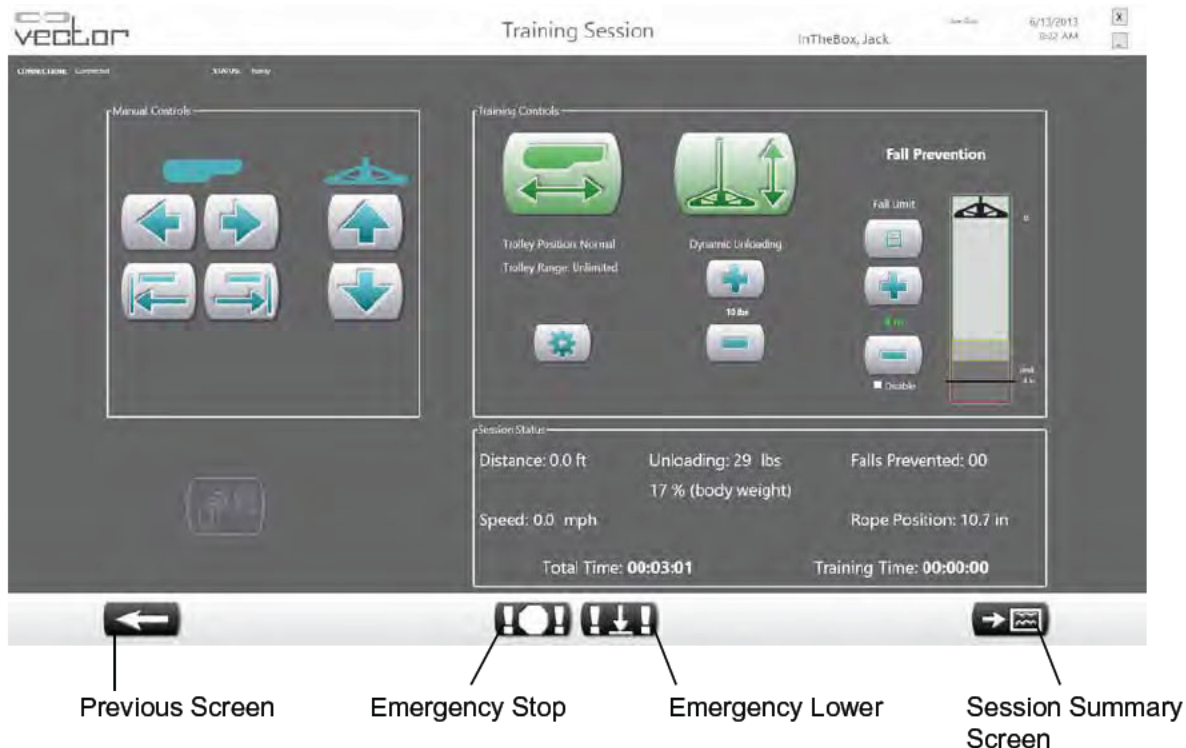

Figure 5-9: Training Session Screen
To stop a training session both the DBWS feature and the Trolley Tracking feature must be turned off, both buttons need to be green. See Figure 5-9. If the Previous Screen button (See Figure 5-9) is pressed, this will also end a training session. Once a training session is ended the fall limit setting and dynamic unloading setting will go back to the default value.
At the bottom of the training session screen are the Emergency Stop and Emergency Lower buttons. See Figure 5-9. At any given time these buttons can be used for emergency situations.
1. From the Training Session screen press the Session Summary screen button. See Figure 5-9.